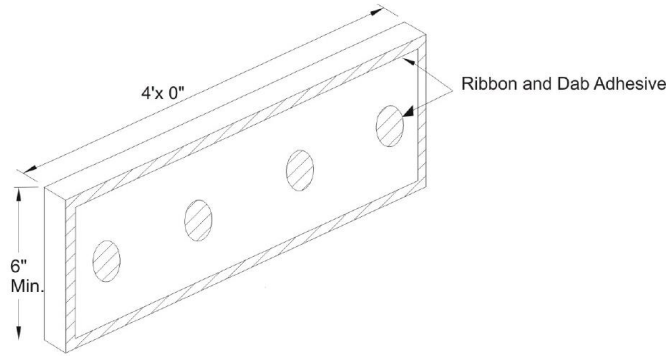

Figure 7
- .8 Tops of walls, sills of continuous windows and other horizontal system terminations are terminated using 152 mm x 305 mm x 1.2 m (6 in x 12 in x 48 in) closure blocks. These are adhered to Backstop NT using a ribbon and dab adhesive pattern as shown in the Figure 7.